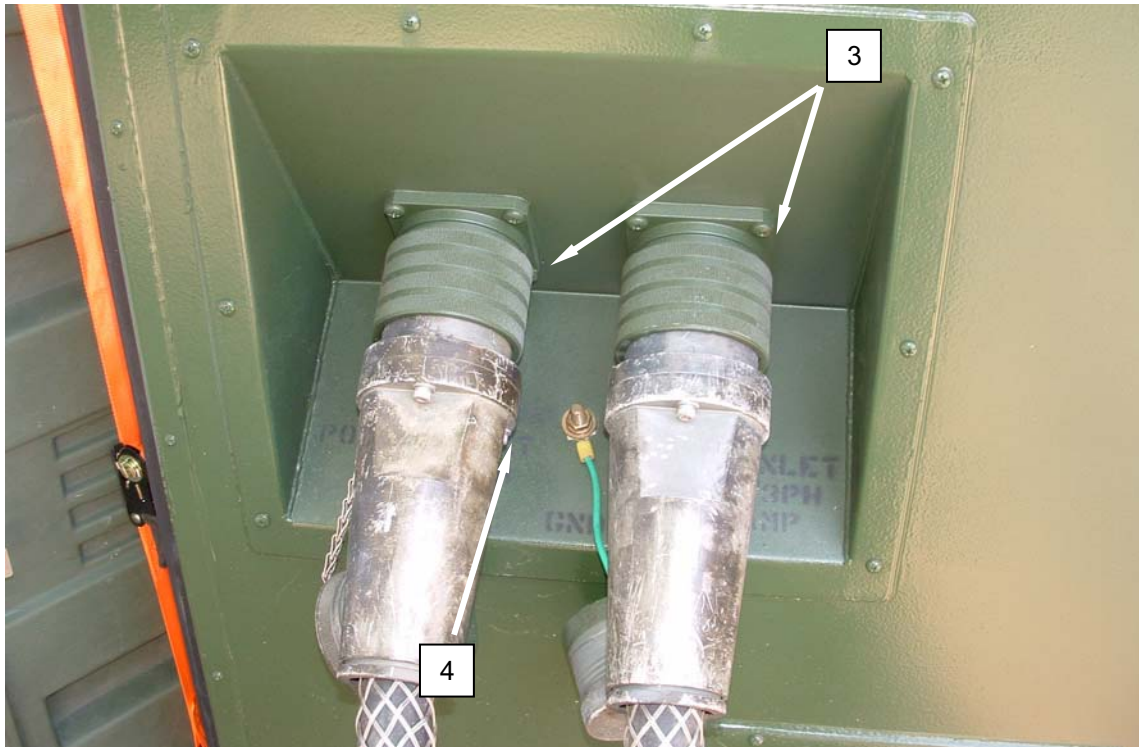

Figure 18. CBL Shut Down Procedure during NBC Imminent or Actual Attack.
3. Disconnect two 100 A cables (**Figure 18, Item 3**) and ground wire (**Figure 18, Item 4**) at dryer service end of container.